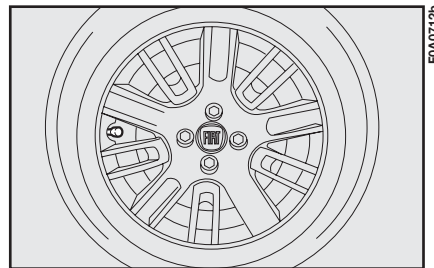

fig. 12
20) To versions with large wheel cup, make symbol  fig. 12 coincide with the inflation valve. Fasten the four bolts are shown in 19).